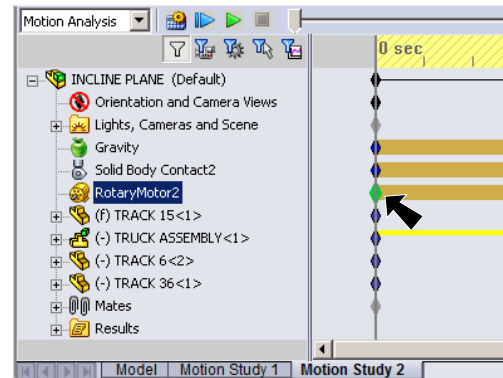

Fig. 5
Step 1. **Double click** RotaryMotor2 Key Point  at T = 0, **Fig. 5**.